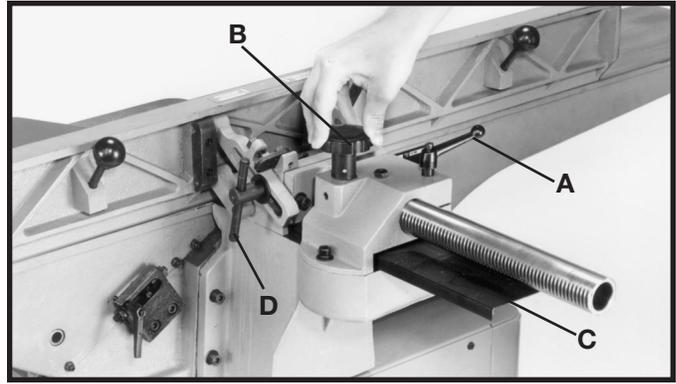
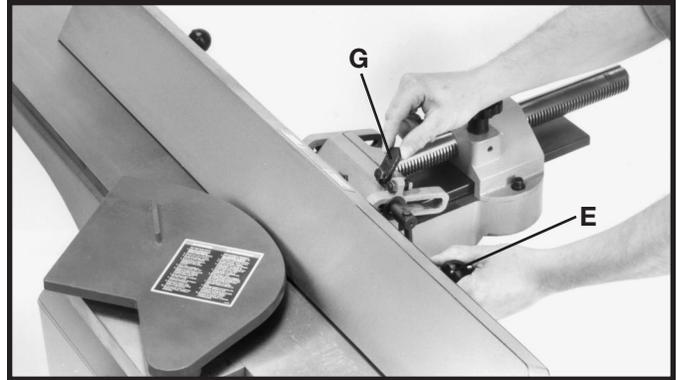

Fig. 50
Fig. 51
1. To move the fence across the table, loosen lock handle (A) Fig. 50, and turn knob (B) until desired fence location is reached. Then tighten lock handle (A). As the fence is moved across the table, the rear cutterhead guard (C) covers and guards the cutterhead in back of the fence.
**NOTE:** Lock handle (A) is spring-loaded and can be repositioned by pulling up on the handle and repositioning it on the serrated nut located underneath the hub of the handle.
2. To tilt the fence in or out, loosen lock handle (D) Fig. 50. While holding fence tilting handle (E) Fig. 51, rotate 90° flip stop (G) and tilt the fence to the desired angle, in or out, and tighten lock handle (D) Fig. 50. **IMPORTANT:** When cutting bevels and the angle is small, there is little difference whether the fence is tilted in or out; however, at angles approaching 45 degrees it may become difficult to hold the work securely against the fence when the fence is tilted out. In these cases we suggest that the fence be tilted toward the table, as shown in Fig. 52. The fence will form a V-shape with the tables and the work is easily pressed into the pocket while passing across the knives.